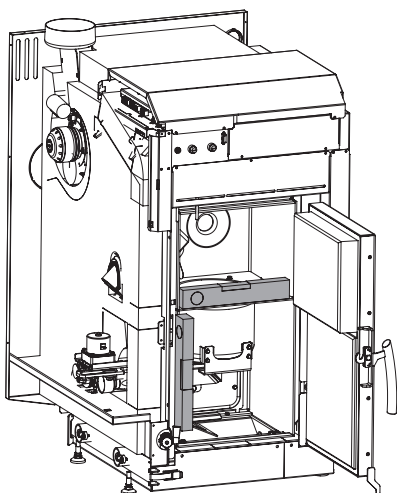

Fig. 85 Align the boiler with a spirit level
- ▶ Move the boiler into position and use the 4 adjustable feet to level the boiler. To level the boiler, place the spirit level on top of the door frame or seal steel sheet at the front – Fig. 85.